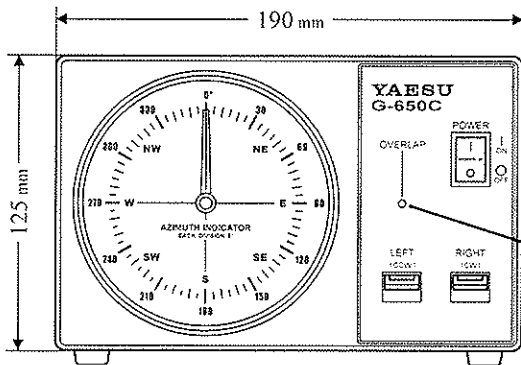

Figure 3
9. Hold down the right rotate (**RIGHT**) switch again and rotate to the right. Check that the overlap LED (see Figure 3) illuminates when the rotation exceeds approximately  $360^\circ$ .